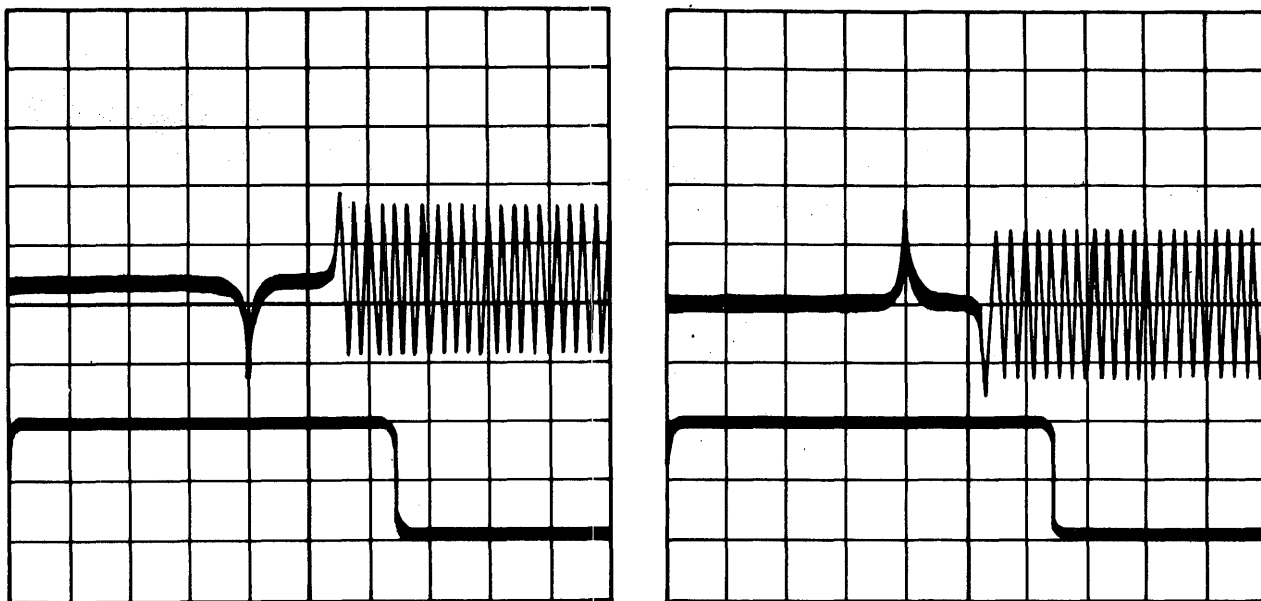

Figure 5-45. Index-to-Data Alignment
- F. Place the CART PROT switch in up (ON) position.
- J. Adjust index alignment potentiometer R8 on the Disc Control Board in card cage location J3 to obtain the specified time relationship for the appropriate waveform as shown in Figure 5-45. Ensure that the oscilloscope is being triggered on the leading edge of the index pulse.